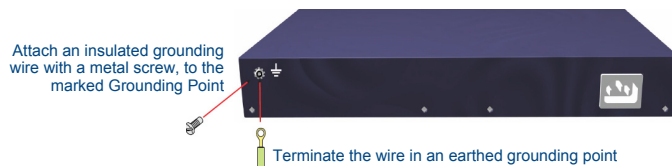

FIG. 2 Grounding
- **Grounding:** Rack-mounted equipment should be properly grounded. Particular attention should be given to supply connections other than direct connections to the mains (FIG. 2).